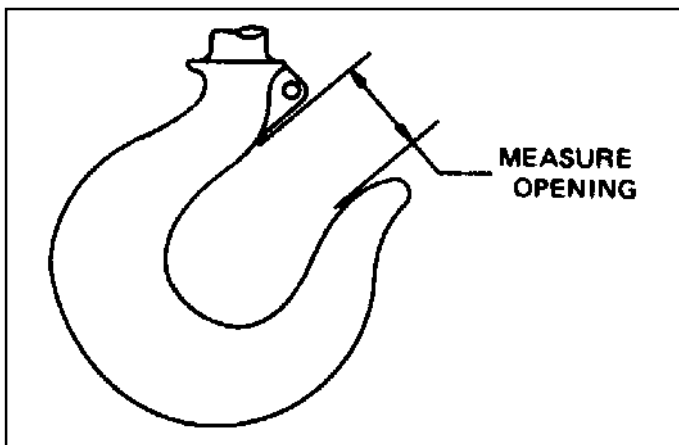

Figure 5-5. Lower Hook Opening (Shown with latch removed for clarity.)
as. **DO NOT** operate hoist with hooks that have opened up. See Figures 5-5 and 5-6.
(1) Check for bent or distorted hook. If hook is opened beyond the dimension given in figure 5-5, it must be replaced. Also check to see that hook swivels and is free to pivot. Lubricate these points if necessary.